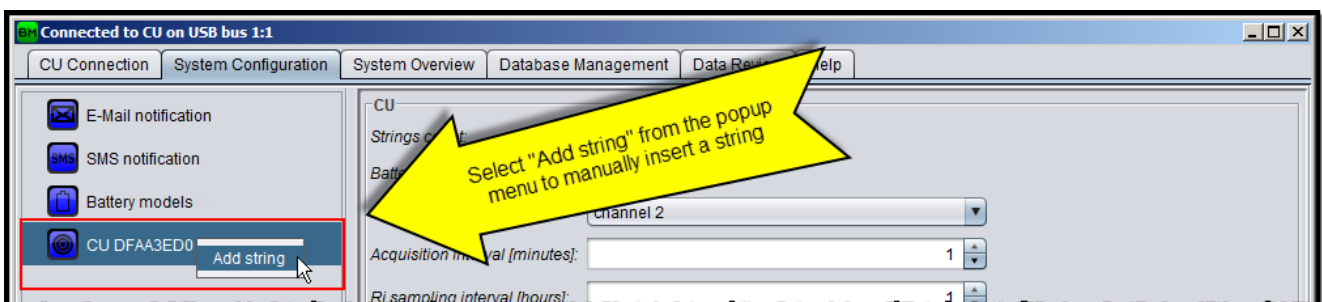

Figure 26: Manually add string
1. Right click on the CU icon to open the popup menu and select “**Add string**” as shown on Figure 26.